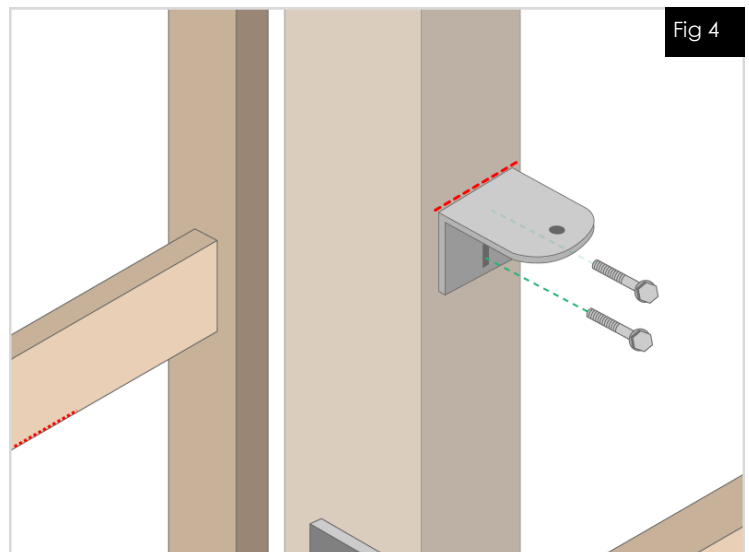

Fig 4
6) Place the lower “L” shaped bracket so the top of the bracket is aligned with the mark on the post. Mark then drill and attach the bracket using 3/8” carriage bolts. [See Fig. 4]
6) Place the lower "L" shaped bracket so the top of the bracket is aligned with the mark on the post. Mark then drill and attach the bracket using 3/8" carriage bolts. [See Fig. 4]